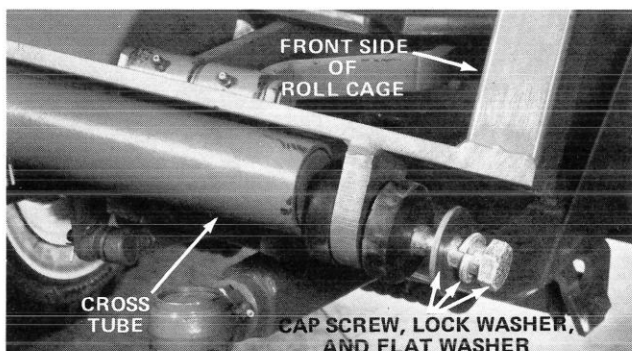

Figure 4
6. Secure two front sides of roll cage to ends of front cross tube with two cap screws, lock washers, and flat washers (Fig. 4).